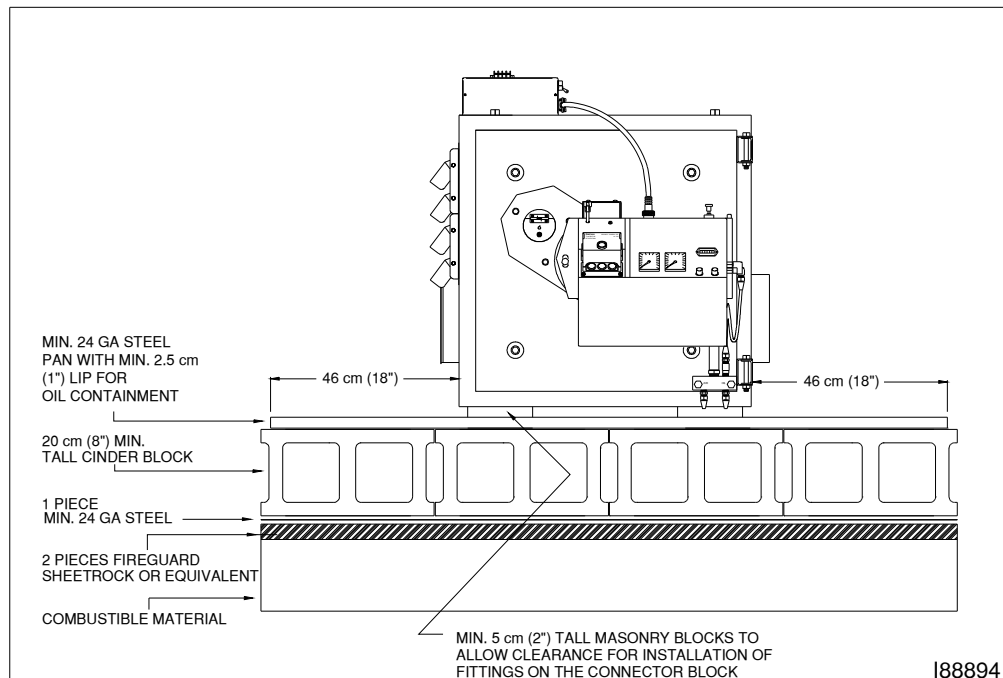

Figure 4E - CB-1500 Furnace Installed on Non-Combustible Floor (CB-2500 is similar)
CAUTION: If you are installing your furnace in an area with a combustible floor, you must construct a *non-combustible* floor as shown in Figure 4E.
1. Refer to Figure 4E and follow the instructions as provided in the diagram.